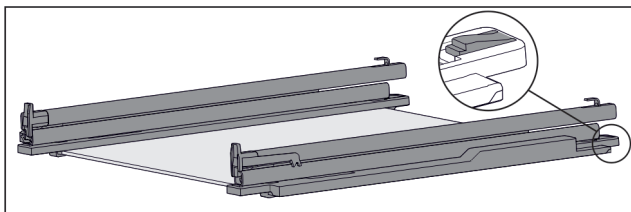

Fig. 197 Glass shelf with rails and retaining parts
- ▶ Press down retaining part at the rear (see *Fig. 197*) and at the same time push the rail back.